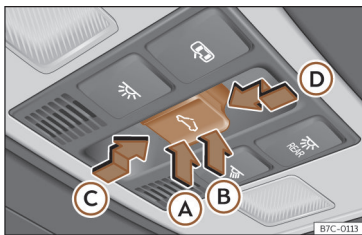

Fig. 61 On the interior roof lining: sunroof button.
The ☰ button **Fig. 61** has two levels. The first level switches the sunroof to the tilted position, opening or closing it fully or partially.
- Within approximately 5 seconds of having activated the roll-back function, press the ⇄ >>> Fig. 61 button to the second level in the direction of arrow Ⓧ until the sunroof closes completely.